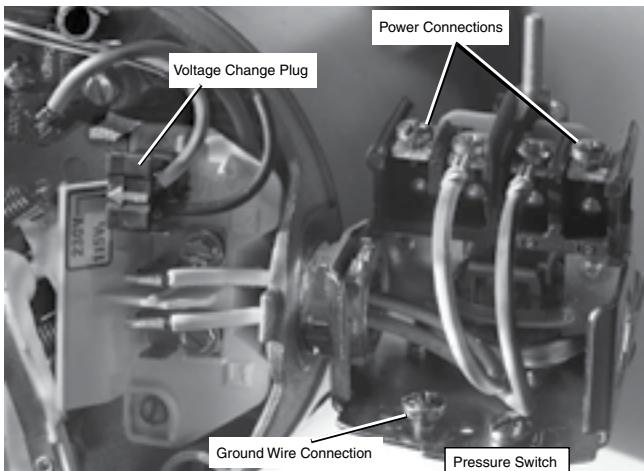

Figure 6: Voltage set to 230 volts, Plug Type
4. Attach the incoming power leads to the two outer screws on the pressure switch as shown in Figure 6.
5. Attach the ground wire to one of the grounding connections, shown in Figure 6.